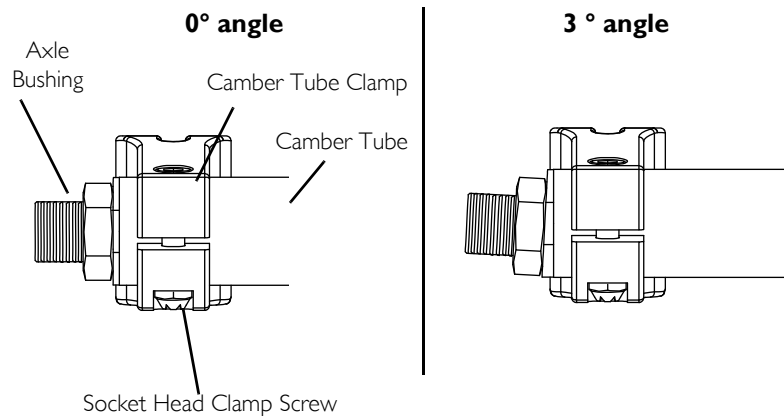
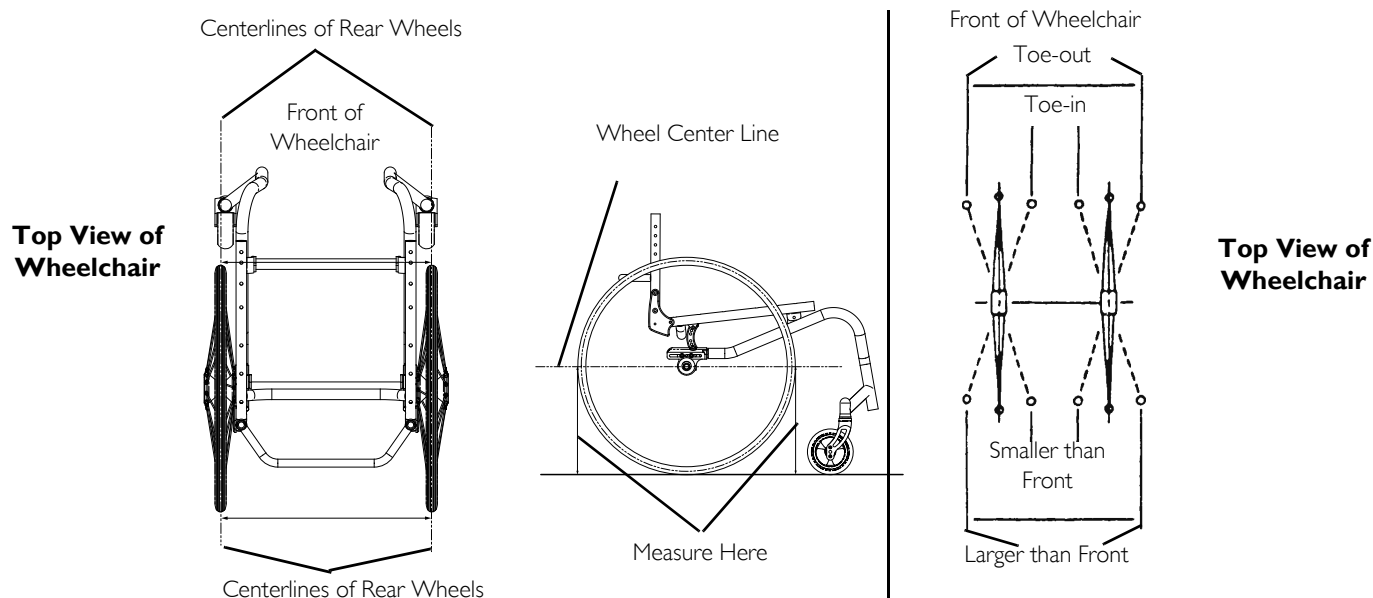

FIGURE 9 Removing/Installing the Camber Tube
FIGURE 11 Determining/Setting Toe In/Toe Out
For this procedure, refer to FIGURE 9 on page 76.
For this procedure, refer to FIGURE 9 on page 76 and FIGURE 11.
2. Measure the distance between the centerlines at the rear and front of the rear wheels at approximately 12 inches (for 24-inch diameter wheels) from the ground/floor (FIGURE 11).
- If the back centerline measurement of the rear wheels is **SMALLER** than the front centerline measurement of the rear wheels, a **TOE-OUT** condition exists (FIGURE 11).
- If the back centerline measurement of the rear wheels is **LARGER** than the front centerline measurement of the rear wheels, a **TOE-IN** condition exists (FIGURE 11).
- A. Loosen both mounting socket head clamp screws (FIGURE 9).
- B. Rotate the camber tube until front and rear measurement are within $\frac{1}{8}$ -inch (FIGURE 9).
- C. Securely tighten both socket head clamp screws (FIGURE 9).